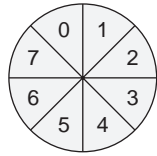

FIG. 10.7. Diagram of plate divided into eighths.
1. Take six nutrient agar plates and divide them into eighths. Label two plates for inoculation with *Serratia marcescens*, two for inoculation with *Micrococcus luteus*, and the last two for inoculation by *Bacillus subtilis*. Label each section of these plates starting at 0 and ending at 15 (Fig. 10.7).